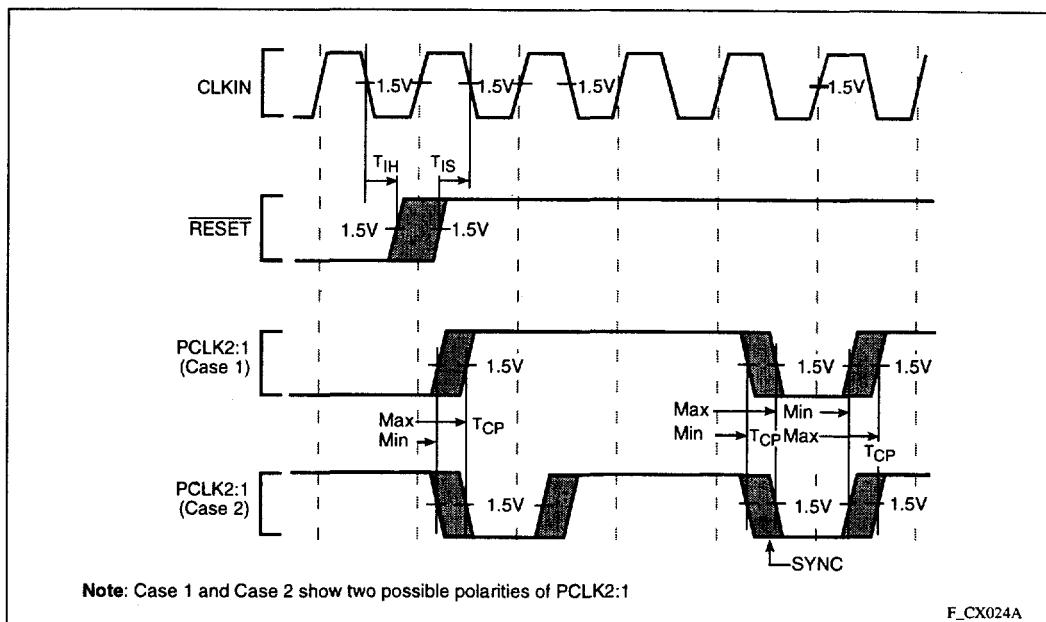

Figure 22. Clock Synchronization in the 2-x Clock Mode
13. In 2-x clock mode, RESET is an asynchronous input which has no required setup and hold time for proper operation. However, to guarantee the device exits reset synchronized to a particular clock edge, the RESET pin must meet setup and hold times to the falling edge of the CLKIN. (See Figure 22.)